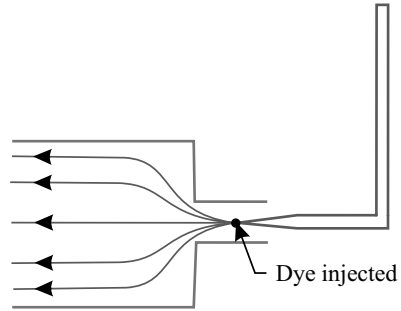

Fig. 5.11. Streak lines at $t = t_1$.
- (ii) In an experimental work to trace the motion of fluid particles, a coloured dye may be injected into the flowing fluid and the resulting coloured filament lines at a given location give the streak lines (Fig 5.11).